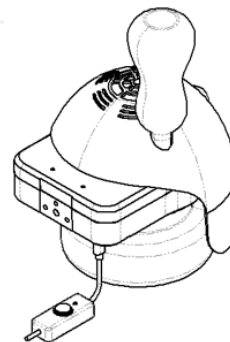

Figure 8
3. Invert and insert the bottle through the refill port and hold it a little bit up as shown in **Figure 8**. Ensure the seal has been broken when inserted into the refill port. Before removing it, make sure the tube is empty.
6. **IMPORTANT:** To achieve proper functioning, fill or refill the ViraWarn Patriot using two (2) refill tubes